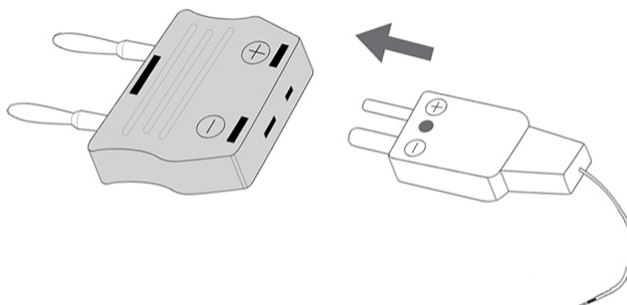

Figure 2-13 Connecting the thermal probe into the non-compensation transfer adapter
- 2 Connect the miniature thermal probe into the non-compensation transfer adapter as shown in Figure 2-13.